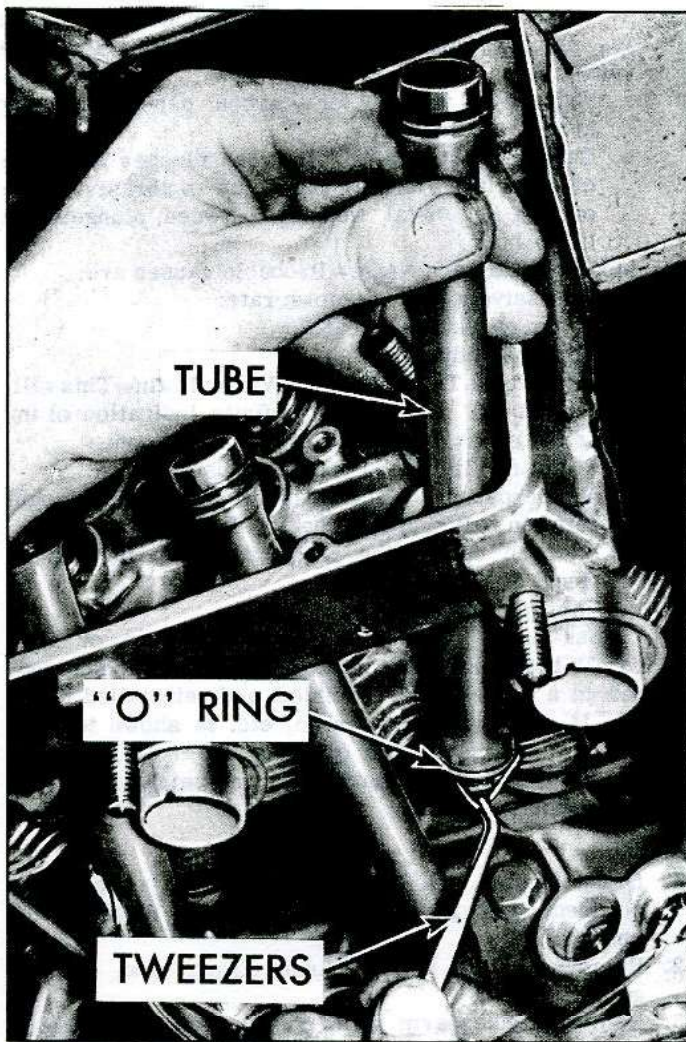

Fig. 33—Removing Push Rod Tubes
5. Pull push rod tubes from crankcase bore and remove and discard inner "O" ring seal, (fig. 33), then remove push rod tube from cylinder head and remove and discard outer "O" ring seal.